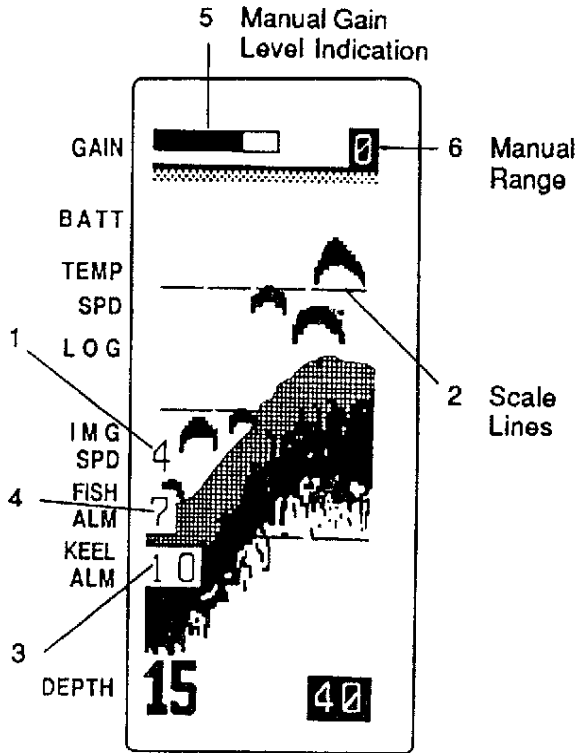
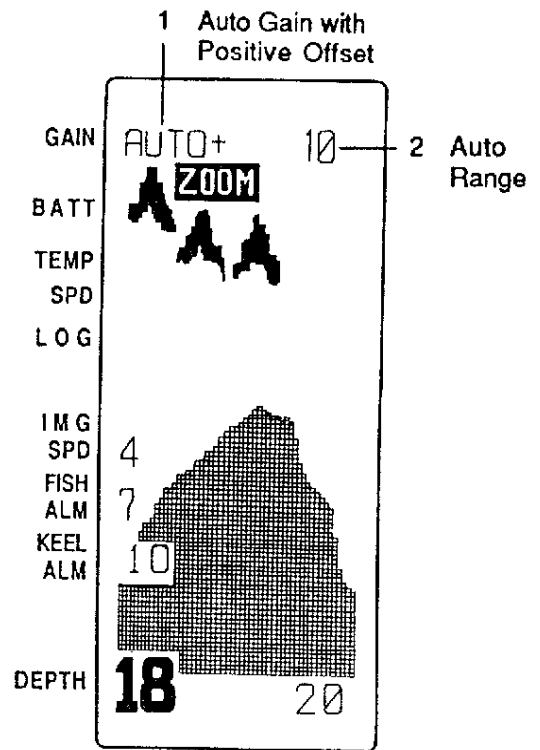
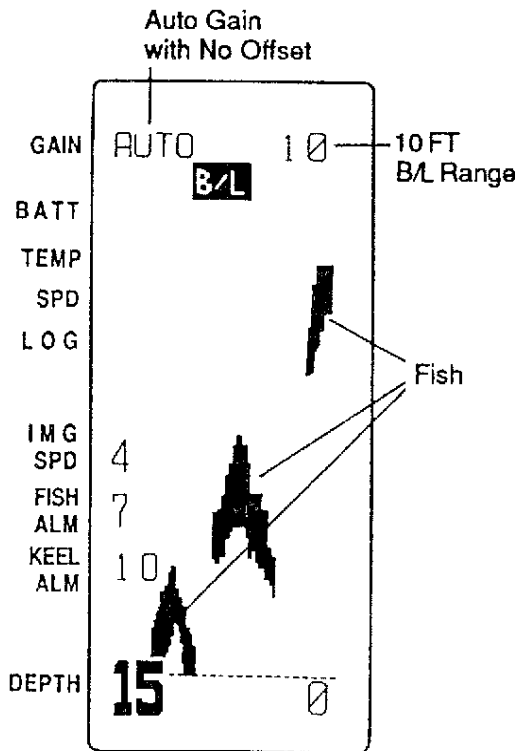
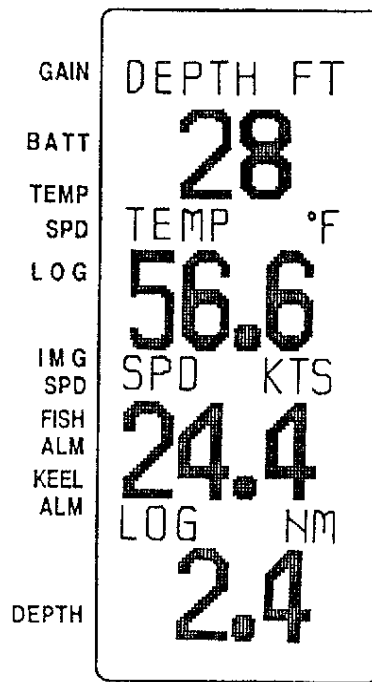

Figure 11 Standard Display
Figure 12 Zoom Display
Figure 13 B/L Display
Figure 14 Big Number Display
There are four display modes on the LCS-180: Standard (Fig. 11), Zoom (Fig. 12), Bottom Lock (Fig. 13), and Big Numbers (Fig. 14). They are scrolled through by pressing the "MODE" Key (Fig. 10-5).
- (b) When you are in the Zoom Display Mode (Fig. 12), the selected zoom range within your range scale will be displayed on the screen by pressing the up and down arrows of the "ZOOM" Key (Fig. 10-10). Zoom Range is not applicable when on the 0-10 feet or 0-5 meters range scale. For the second range of 0-20 feet or 0-10 meters, the usable Zoom range is 10 feet or 5 meters.
- (b) When you are in the Bottom Lock Display (Fig. 13), the bottom will appear as a straight line regardless of bottom contour. Fish within the bottom lock range will be shown on the screen.
- NOTE:** All four functions of the "ADD. INF" will affect the Standard, Zoom and Bottom Lock Displays (Fig. 11, Fig. 12, Fig. 13).